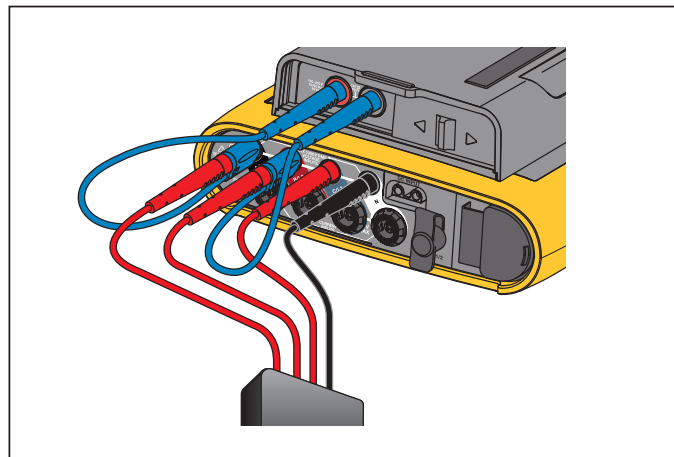

Figure 9. Measurement without Neutral Voltage and Instrument Power Supply
- Connect B/L2 with the second input of the power supply. See Figure 9.